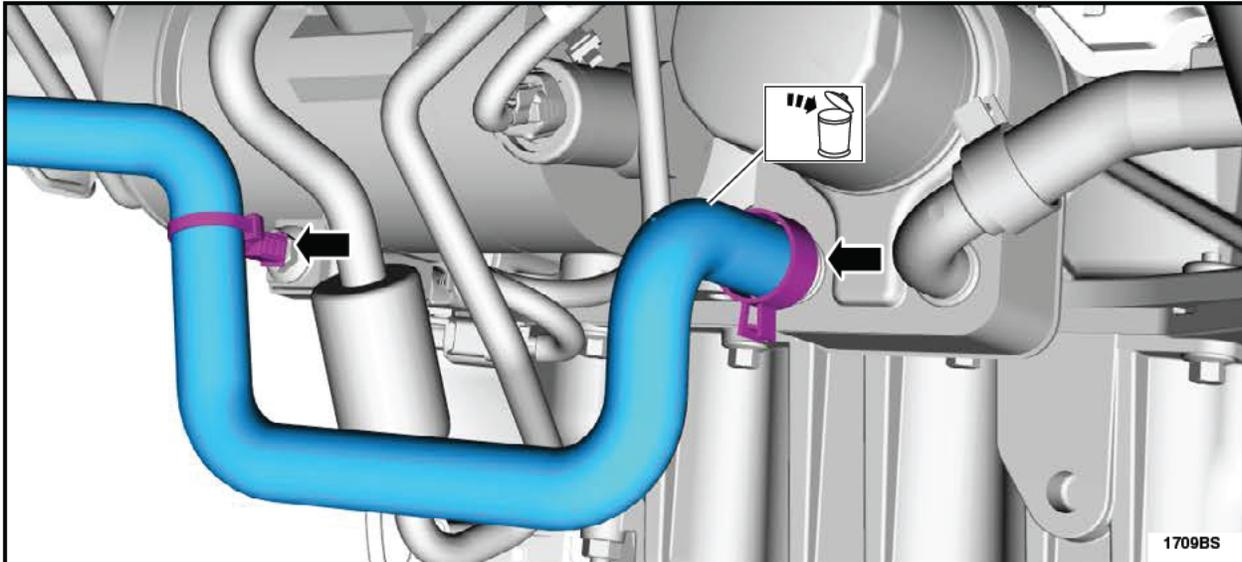

FIGURE 17
6. Detach the retaining clip and disconnect the degas bottle hose from the engine oil cooler assembly. Remove and discard the degas hose assembly. See Figure 17.